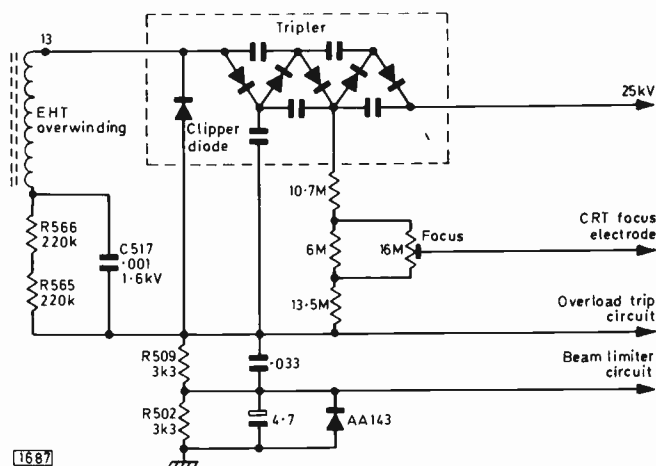

Fig. 2: E.H.T. circuit, ITT FT110 chassis.
stage our first move was to make a resistance check between the line output transformer overwinding tag (13) feeding the e.h.t. tripler and chassis. The reading was only about 7k Ω either way (R502 plus R509, see Fig.2), whereas when the clipper diode in the tripler is reverse biased the reading should have been in the region of 0.5M Ω (R566/565/509/502). Obviously the next move was to disconnect the tripler, but the readings remained the same. It was then clear that C517 must be short-circuit. On removing it a tiny raised "pip" was noticed on its casing, clearly indicating that a severe sparkover had occurred internally, possibly due to a breakdown in the tripler. Replacing C517, and the tripler for good measure, restored normal results. Since then we've heard that other service engineers hereabouts have come across the same fault, C517 going short-circuit and operating the overload protection circuit. The capacitor is mounted on the line output transformer, close to one edge near R565/R566.